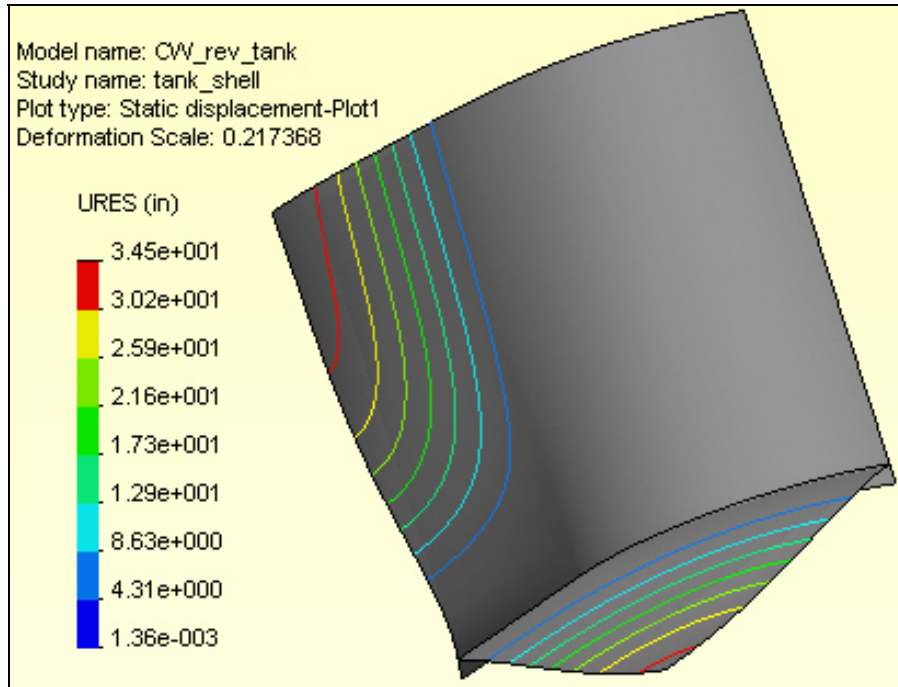

Figure 24 Displacement magnitude contours
3. Double click again on the **Plot** icon to get both the magnified deflected shape and the color contours of the displacement values shown in Figure 24. That alternate view may be easier to understand or to plot in grayscale.